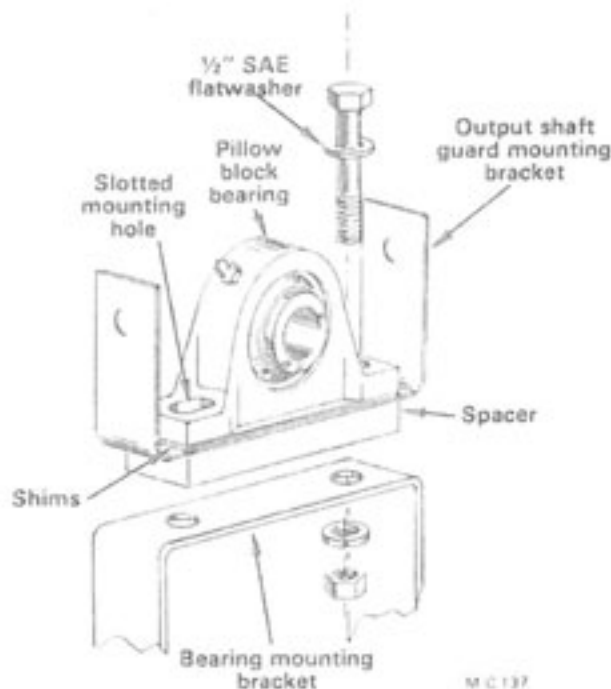

Figure 23
- D. Remove the two capscrews, lockwashers and hex-nuts securing the output shaft bearing. Lift up on the output shaft and remove the spacer, output shaft guard bracket and shims from under the output shaft bearing, see Figure 23.
- A. Pulleys are out of alignment vertically. Raise or lower the output shaft and bearing as required by adding or removing shims under the bearing, see Figure 23.
- B. Pulleys are out of alignment horizontally. Loosen the bearing mounting capscrews and move the output shaft and bearing forward or back as required. The bearing mounting holes are slotted for this purpose, see Figure 23.